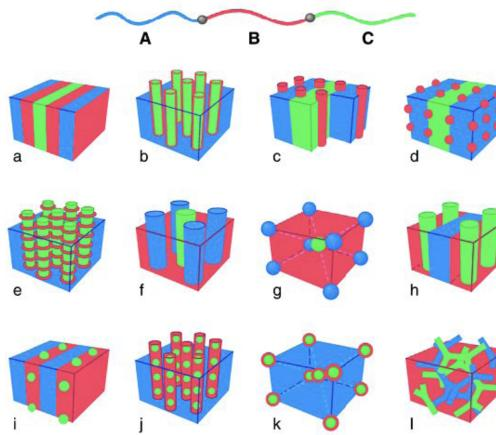

Figure 2.17: Self-assembly of an ABC triblock copolymer.
- If we have something like (a) of Figure 2.17, then we probably have  $N_A = N_B = N_C$  (because everything is nice and equally ordered) and  $\chi_{AC} < \chi_{AB} \approx \chi_{BC}$  (because we have AB and BC interfaces, but not AC interfaces).
- If we can do everything in Figure 2.17 with 3 things, imagine how much we can do with the 20 amino acids!
- **Min-max principle:** Phases are most stable when we (1) minimize interfacial energy and (2) maximize the conformational entropy of the chains.